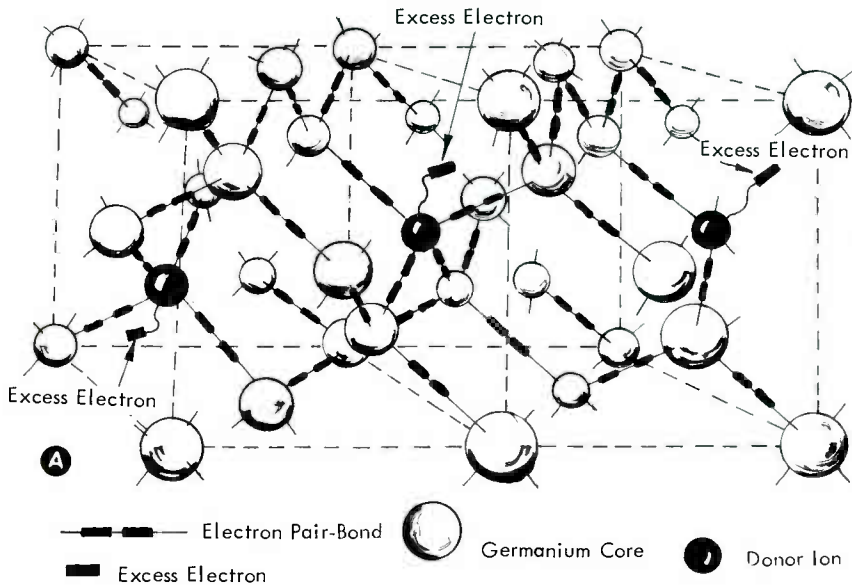

Fig. 8. (A) Germanium crystal with donor atom.
Fig. 8. (B) Electrons may be in any position; (C) current flow in a crystal by excess electrons. Note electrons are repelled by negative terminal and attracted to positive terminal of source.